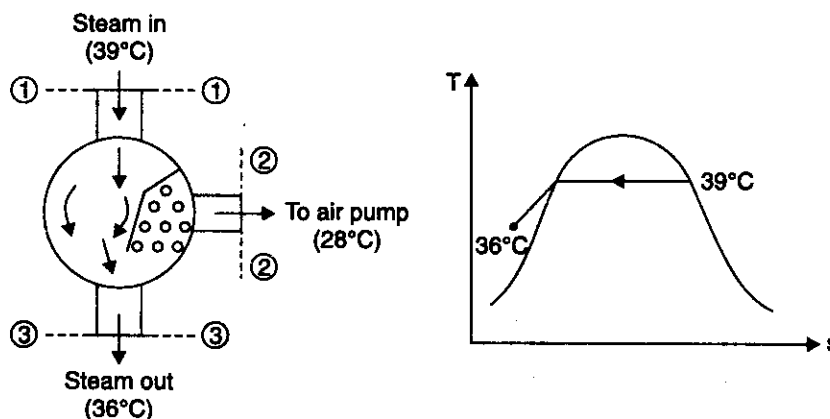

Fig. 3.163
**Solution.** Refer Fig. 3.163